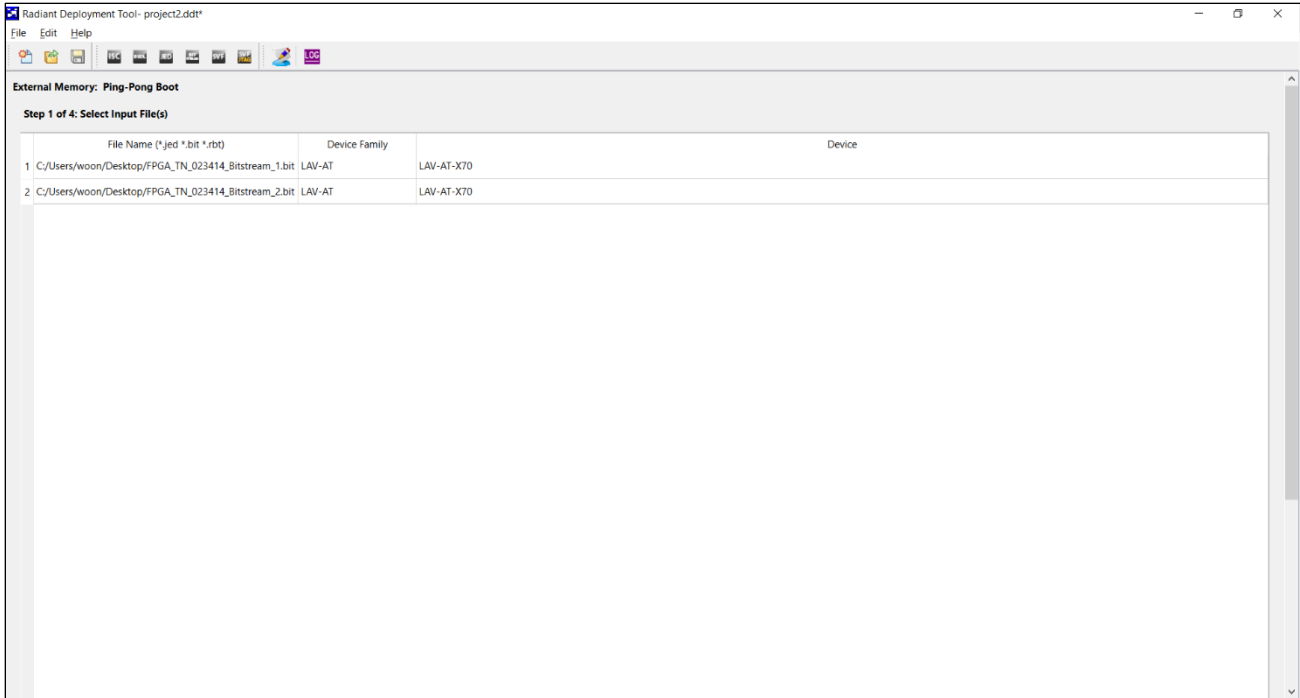

Figure 7.7. Select Input File(s) Window
Step 1 of 4: Select Input File(s) window (Figure 7.7)